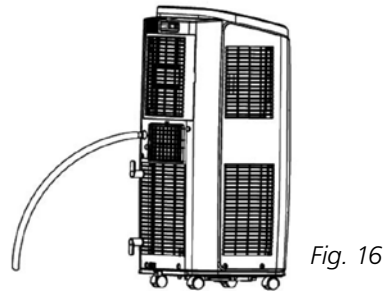

Fig. 16
- 3 Join the water hose (not supplied) to the hose grommet (see fig. 16).